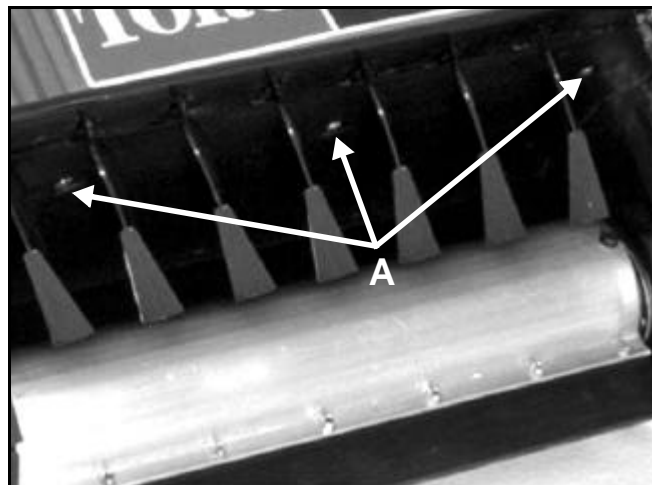

Figure 149
2. Remove the three screws from the front of the upper shroud, located between the directional vanes (Figure 149).